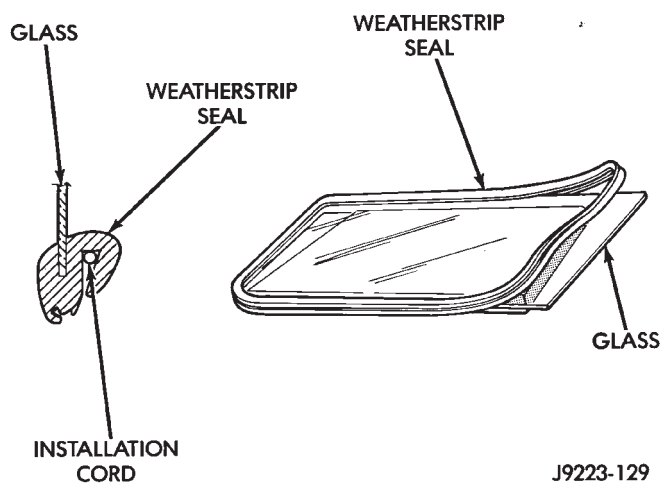

Fig. 31 Weatherstrip Seal and Cord Installation
- (2) Install weatherstrip seal on the glass (Fig. 31). Install the seal installation cord in the window opening channel as follows: